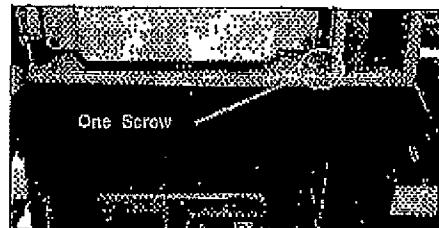

Figure 3-5.1
Step 1: Remove the ground wire by disconnecting the ground screw from the front post as shown in Figure 3-5-1.
Step 3. Remove the secondary terminal block mounting bracket above the breaker by removing the three screws as shown in Figure 3-5.1. This bracket can then be lifted and removed from the cell.